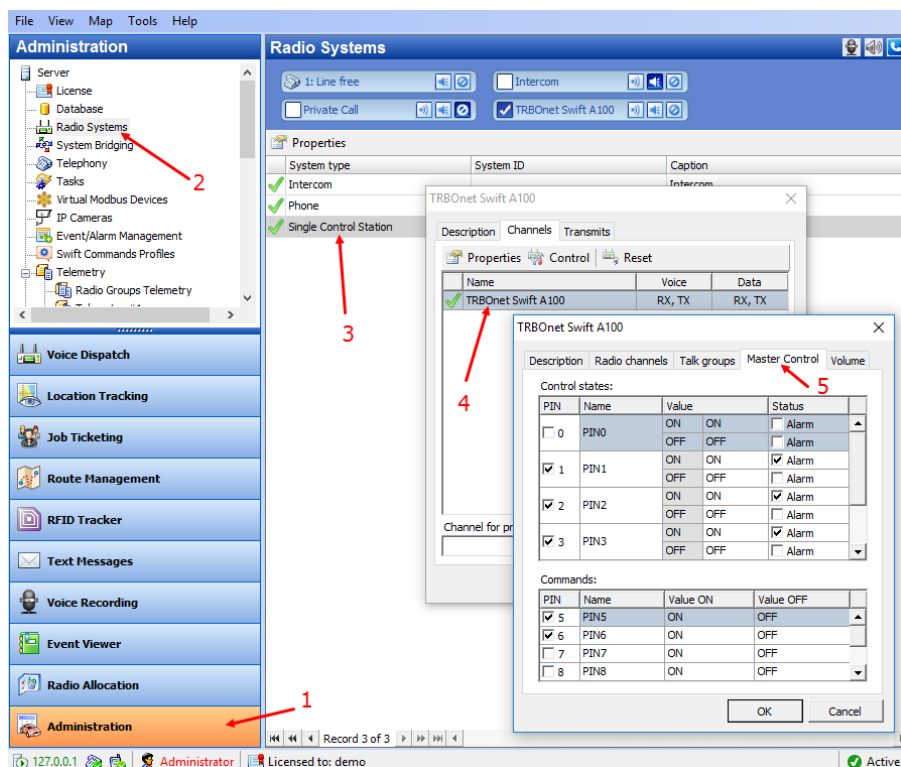

Figure 12: Configuring the A100 gateway pins in TRBOnet Dispatch Console
1. In the TRBOnet Dispatch Console, click **Administration** and **Radio Systems** in the left pane (Figure 12, step 1 and 2).
2. In the right pane, the list of the registered radio systems appears. Double-click the radio system associated with your A100 gateway (Figure 12, step 3).
3. In the popup window, click the **Channels** tab. Double-click the channel (Figure 12, step 4), or select it and click **Properties**. Another popup window appears.